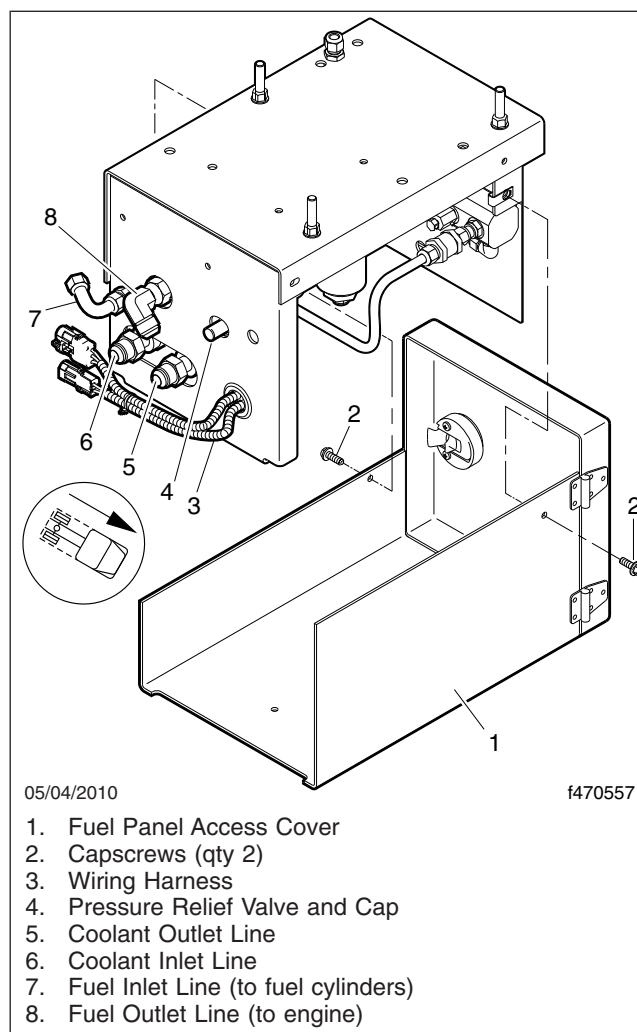

Fig. 21.18, CNG Fuel Panel Assembly
- 2.3 Remove the two capscrews that secure the access cover to the fuel panel, then remove the access cover. See Fig. 21.18. Save the capscrews for installation.